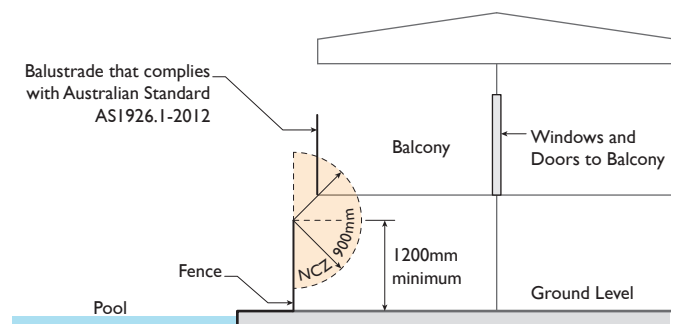

Figure 4
- › A balcony that protrudes into the non-climbable zone of a pool fence shall be fitted with a balustrade that complies with the same requirements as the pool fence (Refer to Figure 4).